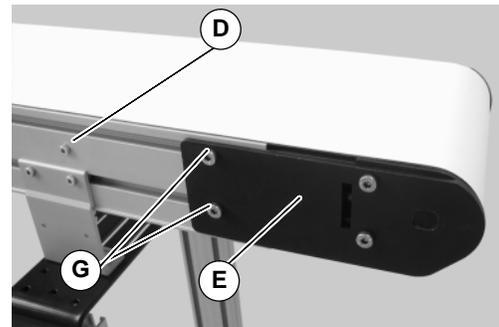
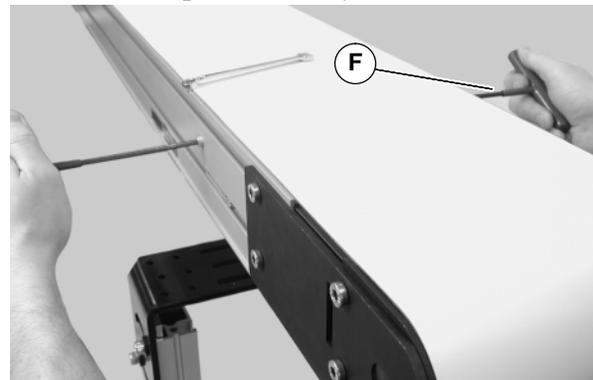

Figure 28
Figure 29
13. On tension end of the conveyor, identified by the pinion locking screw (D of Figure 28), loosen the two tail clamp bolts (G), on both sides of conveyor.
14. With 5mm hex wrench, hold pinion torque screw (F of Figure 29). Loosen the pinion locking screw (D of Figure 28) and turn the pinion torque screw (F) to extend head plate assembly.
16. After adjusting proper tensioning, tighten the pinion locking screw (D of Figure 28) to 69 in-lbs (7.8 N-m), and tighten tail clamp bolts (G of Figure 8) on both sides of conveyor to 146 in-lb (16.5 N-m).